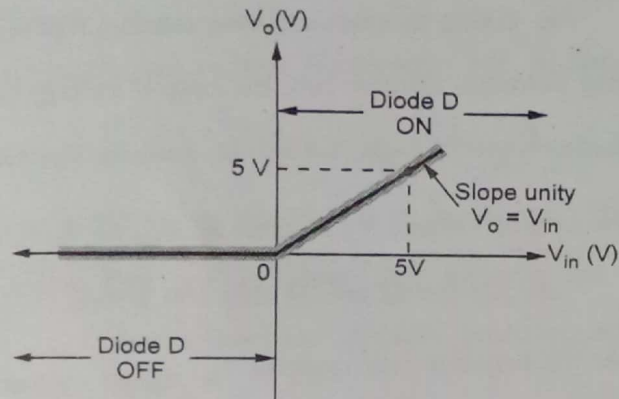

Fig. Q.42.3 Transfer characteristics
- The graph showing the transfer characteristics is shown in the Fig. Q.42.3.